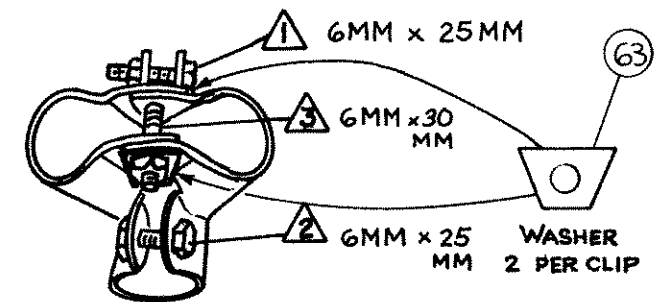

FIG. 9
10.) Starting with bracing clips closest to the base, follow tightening sequence (Fig. 9). Tighten bolts 1 and 2 until the four center tab holes form a clear opening for bolt 3.
Assemble bolt 3 with pair of triangular washers (Fig. 9). Insert bolt 3 and washer thru clip and tighten to 105 In. Lbs.